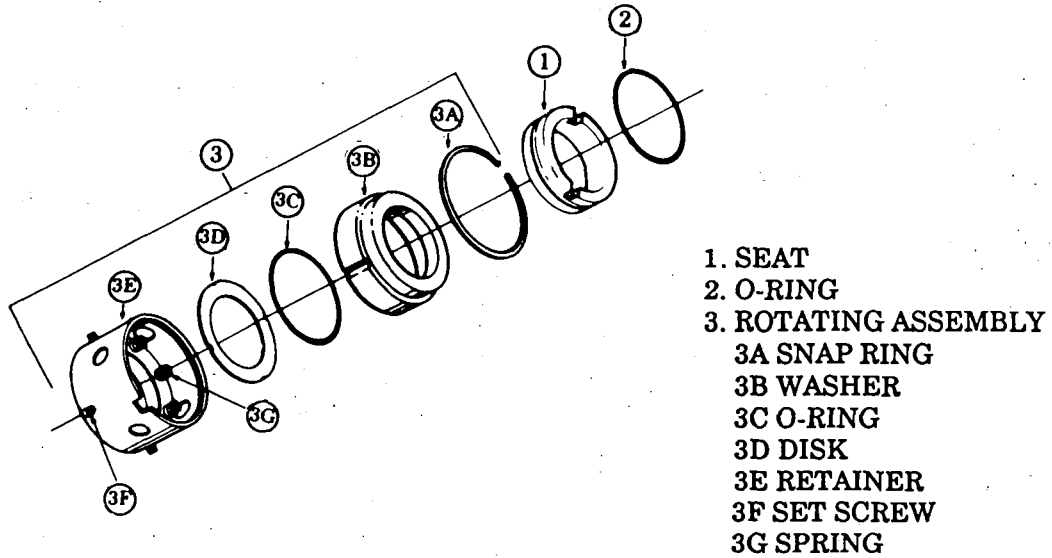

FIGURE 3. Crane Type 8-1 Mechanical Seal
- (2) **Crane Type 8-1 (Figure 3).** Loosen setscrews (3F) and slide rotating assembly (3) from rotor (007).
- (2) **Crane Type 8-1 (Figure 3).** Slide rotating assembly (3) on sleeve (025) until rotating assembly (3) is positioned next to idler stop (009). Tighten setscrews (3F).